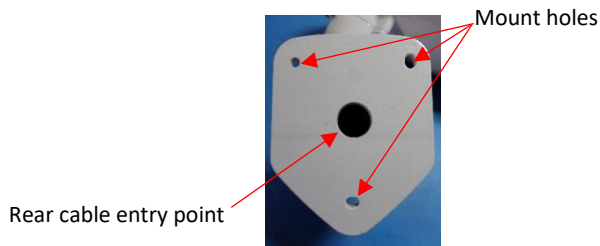

Fig 1
- Use the three mounting holes to fix the bracket to the wall (Fig 1); the bracket can be removed from the housing body to aid fixing, by removing the Pivot Ball (shown below). The upper-left and bottom holes are elongated to aid levelling during fixing.